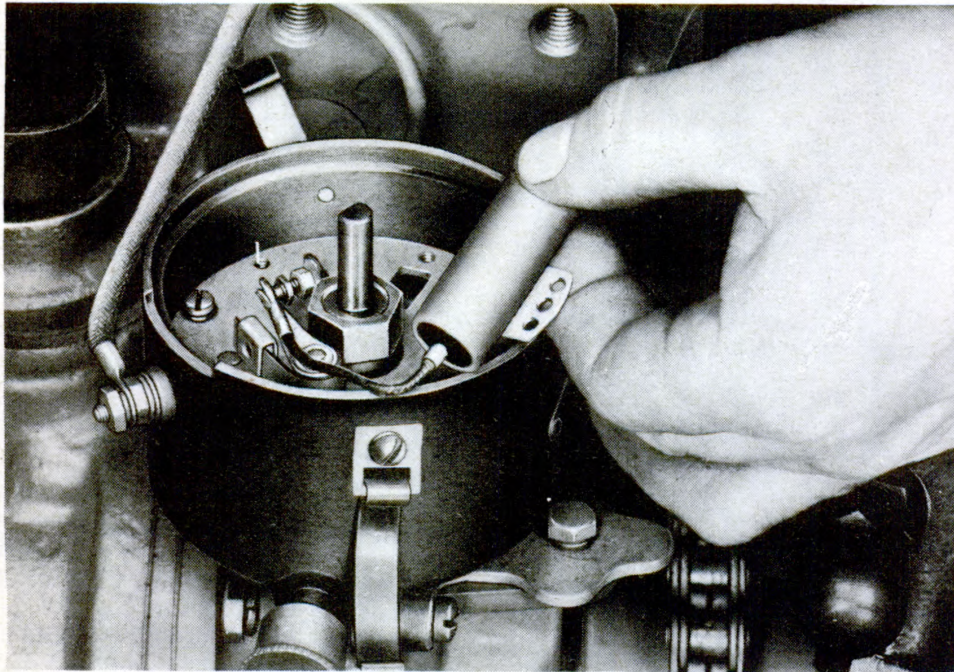

Figure 59 – Condenser Removal
(1) Place condenser in position on breaker plate (fig. 59) in distributor, and secure with machine screw.